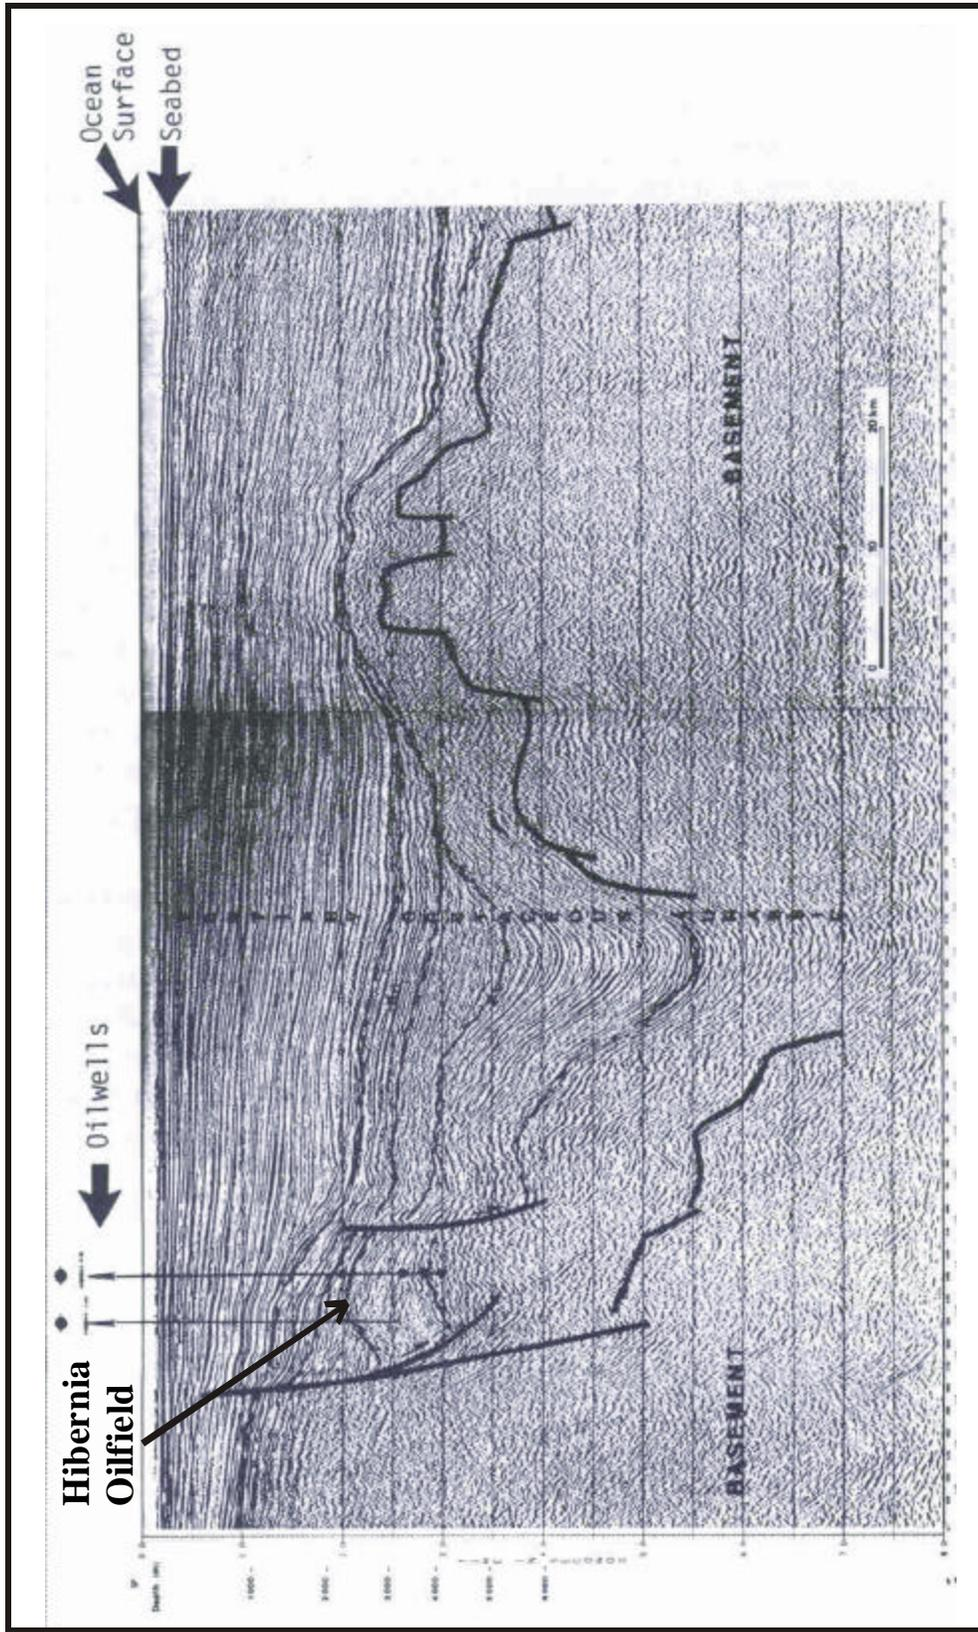

Figure 6.6
Figure 6.6 is an example of a *seismic section*. The seismic section is the most common method of displaying and interpreting the massive amounts of data that are acquired during a seismic survey. The horizontal scale in this display represents a straight line along the surface of the ground. The vertical scale represents the time it took for the echoes to return from different sedimentary layers. From this display, one can readily see the subsurface geologic structure along this line.
- (1) Examine the sample seismic section in figure 6.6. Can you see why the Hibernia field is located where it is? Can you find any other good drilling locations?
- (2) Go to an area where a good clear echo can be generated. A starters pistol can be used as an "energy source". Using a stopwatch (accurate to 1/100 of a second), measure the time it takes for the echo to return. Now calculate the distance to the echoing object using the following.